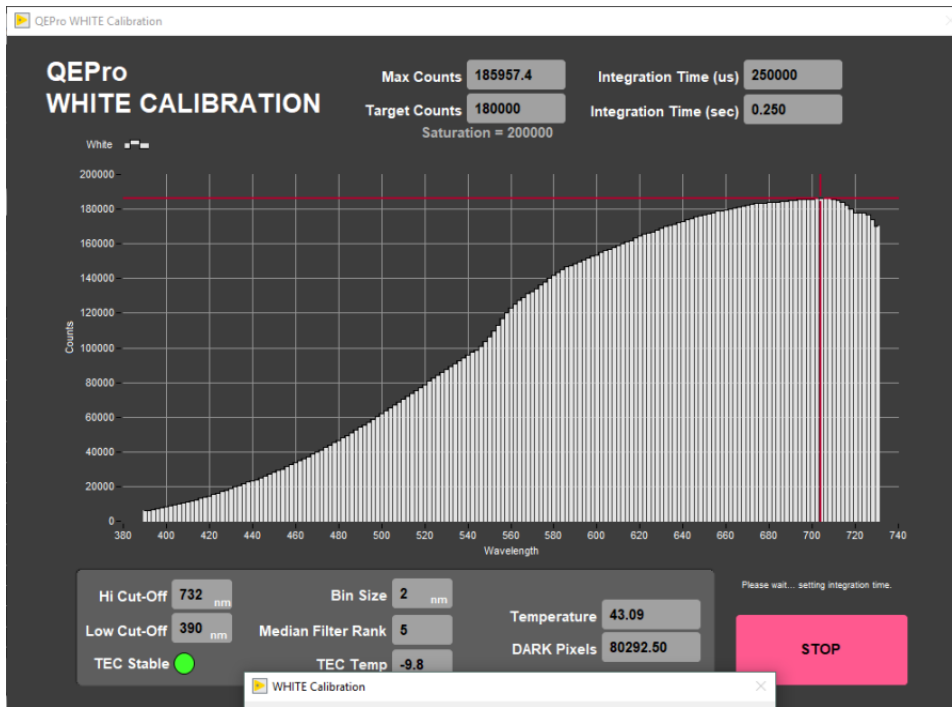

Figure 13 - White calibration, blue light (LED) turned off or other malfunction.
- Figure 13 demonstrates a calibration with the LED turned off (i.e., the shutter did not close properly). You'll notice the left side of the graph, the blue side, does not show the proper peaks, whereas the red side of the graph is at 180K counts. Make sure the LED light is in TTL mode and properly connected to the QE Pro, and lastly that the shutter is opening. If you look at the white standard while the integrating sphere is over it you should see two dots of light, one blue (LED) and one yellowish (Halogen).